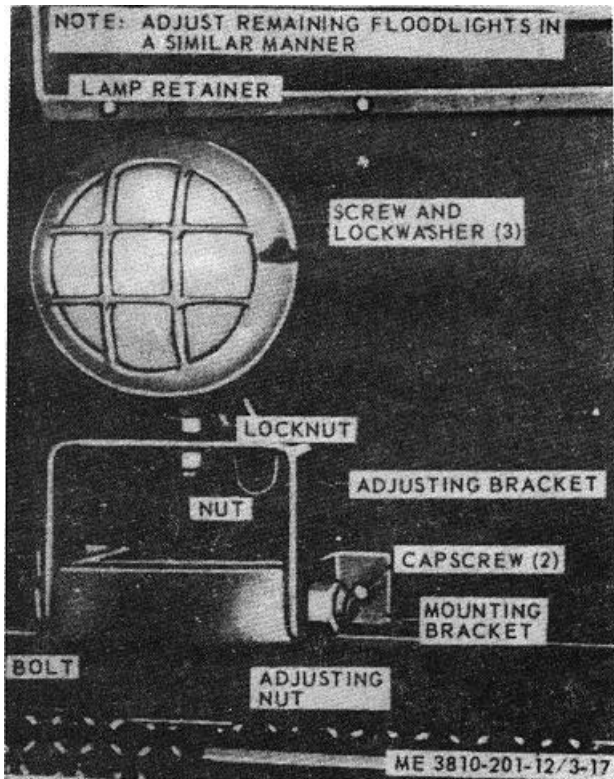

Figure 3-14. Floodlight adjustment and lamp replacement.
(1) To change horizontal position loosen locknut (fig. 3-14), move beam to desired position, then tighten locknut.
(2) To change vertical position, loosen adjusting nut, move adjusting bracket until beam is in desired position, then tighten adjusting nut.
(1) Remove three screw and lockwasher (fig. 3-14) from rear of body and remove lamp retainer.
(2) Remove three screw and lockwasher from plate on rear of retainer, remove plate, then, remove lamp and packing from lamp retainer. Discard unserviceable lamp.
(3) Install packing in retainer, install new lamp; position plate on retainer, then secure with three lockwasher and screws.
(4) Position lamp retainer on floodlight body, so that lamp prongs engage socket in body, then secure retainer to body with three lockwasher and screws.